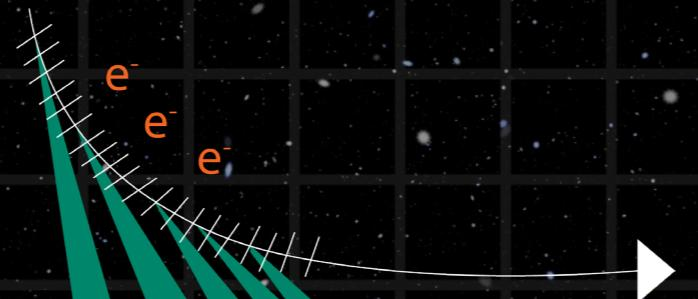

Figure 3. The synchrotron radiation (green) is tangent to the beam orbit (white).
Figure 3. Main challenges associated with the use of photocatalytic materials: (1) redox potential; (2) wavelength light absorption; (3) solar to hydrogen efficiency; (4) (photo-) chemical stability; (5) toxicity; (6) cost/scarcity; (7) material scalability; and (8) fabrication versatility.
In 1946, the synchrotron radiation (Figure 3) was observed for the first time as a very bright spot of light through a glass vacuum chamber of a 70 MeV synchrotron at the General Electric Research Laboratory. Synchrotron radiation intrinsically has nothing to do with synchrotrons and, an acceptable explanation of its name is that the magnetic field that bends the particles around, increases with time and is synchronized to their increasing kinetic energy.